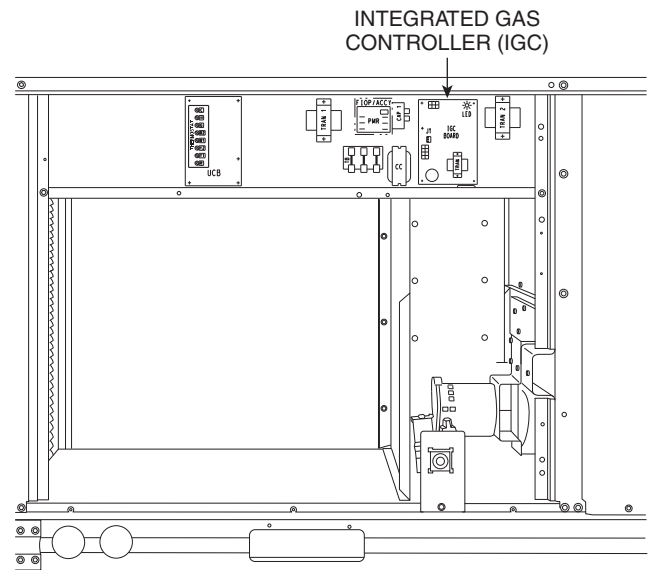
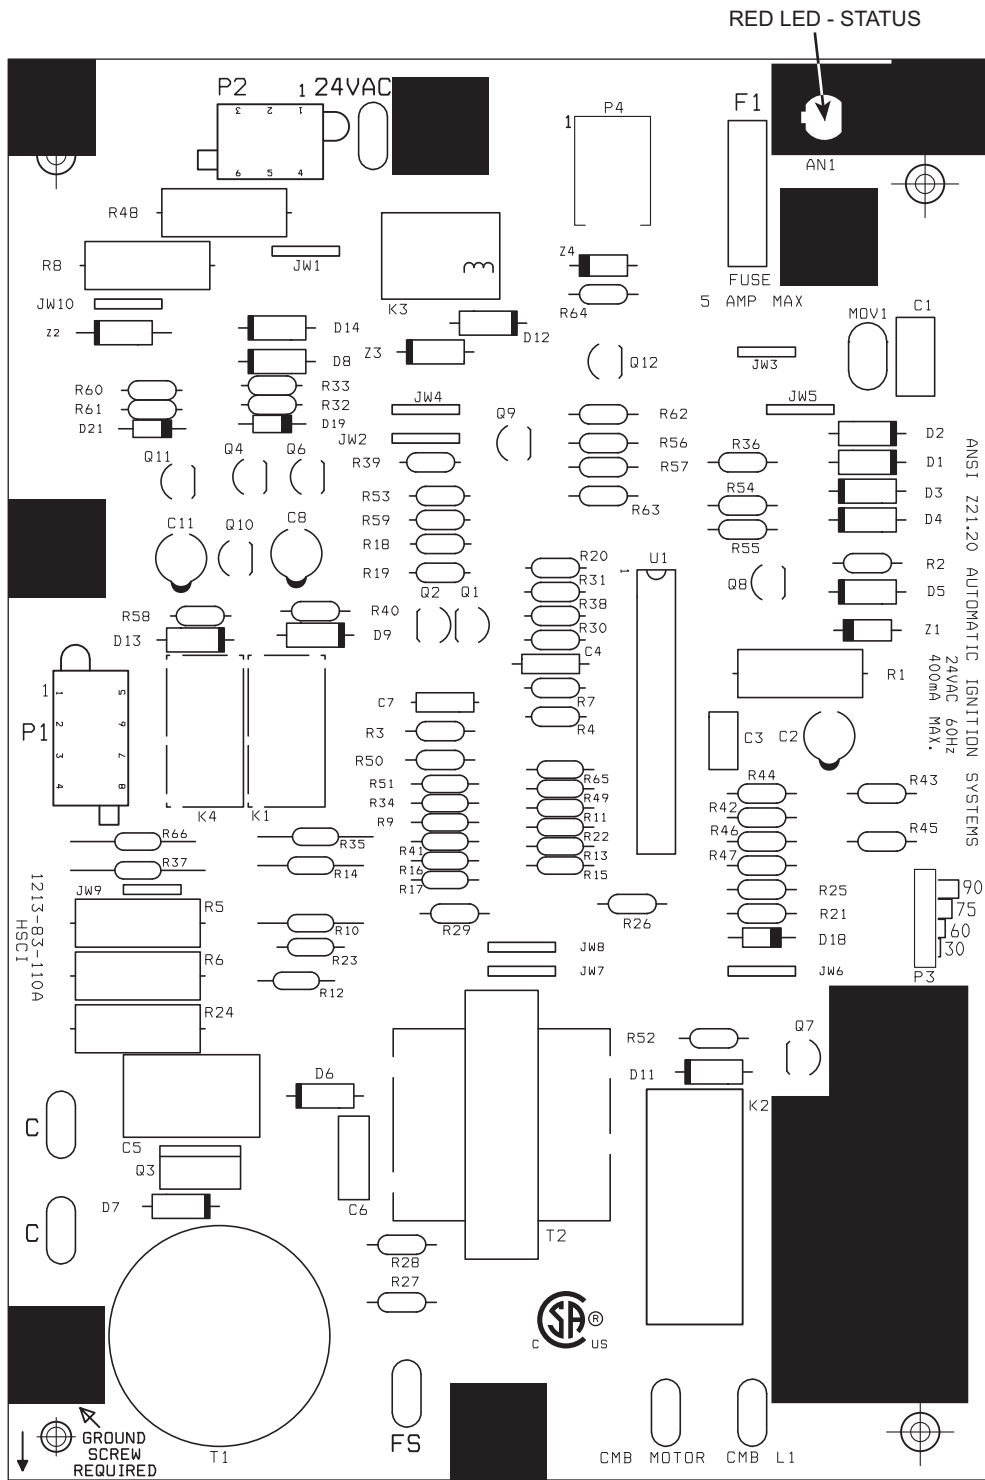

Fig. 56 — Unit Control Box/IGC Location
Fig. 59 — Integrated Gas Control (IGC) Board
8. Remove igniter wires and sensor wires at the Integrated Gas Unit Controller (IGC). (See Fig. 56.)
control box (see Fig. 56). The IGC contains a self-diagnostic LED (light-emitting diode). A single LED (see Fig. 59) on the IGC provides a visual display of operational or sequential problems when the power supply is uninterrupted. When a break in power occurs, the IGC will be reset (resulting in a loss of fault history) and the indoor (evaporator) fan ON/OFF times will be reset. The LED error code can be observed through the viewport. During servicing, refer to the label on the control box cover or Table 11 for an explanation of LED error code descriptions.